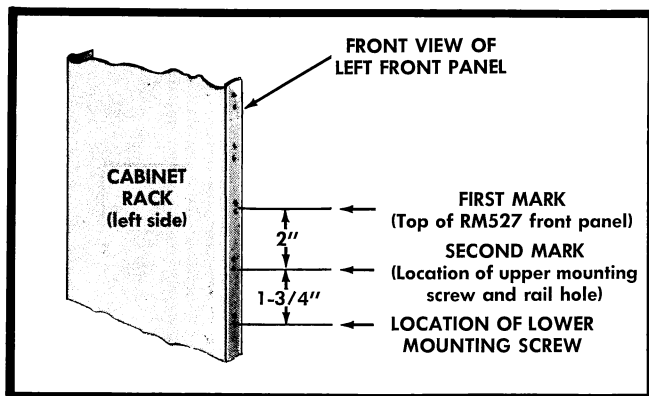

Fig. 2-4. Determining the Chassis-Trak mounting location.
1. Mark a point on the front of the left-hand rack rail where you want to position the top of the front panel. Mark a second point 2 inches below the first mark. The center of the upper mounting screw should fall on the second mark and on a rail mounting hole (see Fig. 2-4).